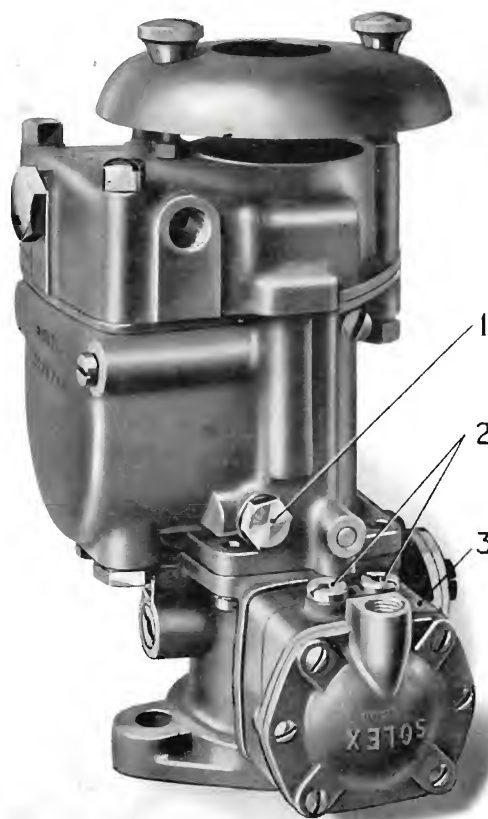

Fig. 9.
It is virtually two carburetters, the starter (3), Fig. 9, being a small carburetter built into the side of the main unit. The starter provides a rich mixture for starting purposes and is automatically cut out by means of a thermostat control when the engine has warmed up.
petrol jet (1), Fig. 9, may be changed to meet abnormal climatic conditions. **The air jet must on no account be altered.** If the starting mixture is too rich as shown by black smoke at the exhaust a smaller petrol jet should be fitted. Should the engine be difficult to start the mixture may be weak and a size larger petrol jet should be fitted.